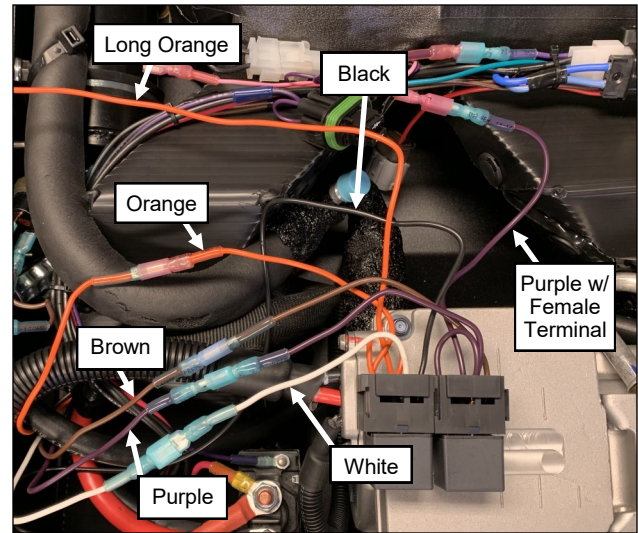

Fig. 2.10 (Connect Controller Wire Harness)
- 2.10** Connect the Controller Wire Harness' white, purple, brown, and orange wires to the mating connectors found on A/C Power Supply Wire Harness per fig. 2.10.